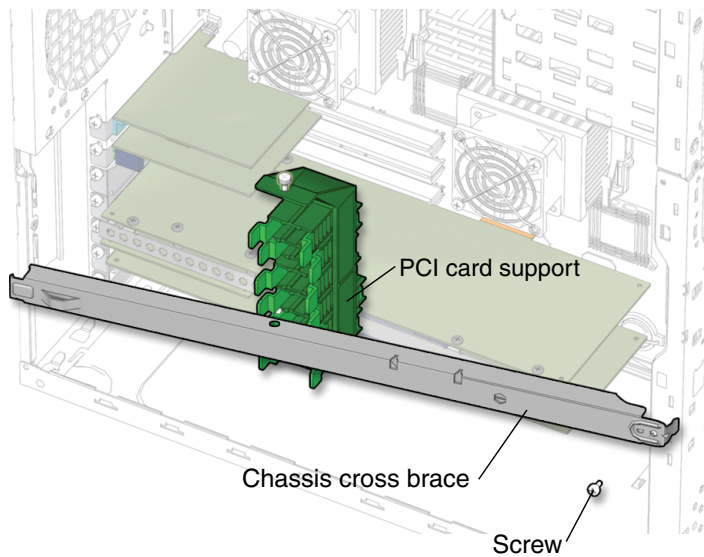

FIGURE 13-45 Unfastening the Chassis Cross Brace
5. Remove the screw (FIGURE 13-45).